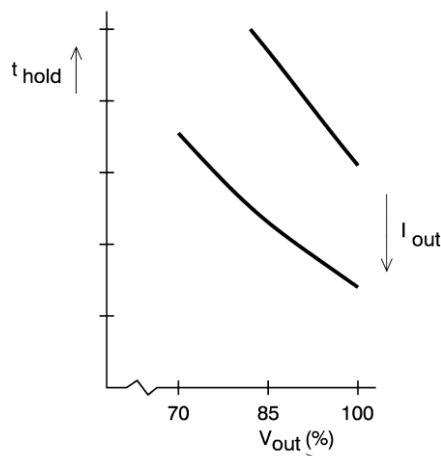

Figure 6.2: Hold-up time vs. V_{out} , for different I_{out}
- The hold-up time depends on the DC load and the DC output voltage. A lighter load or a lower output voltage result in a longer hold-up time, see Figure 6.2.